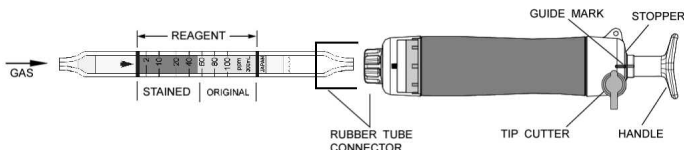

Fig.1
- ② Insert the detector tube into the aspirating pump securely as shown in Fig.1. (Arrow mark shall point to the pump.)
- ③ Align the guide marks on the shaft and stopper of the aspirating pump.
- ④ Pull the pump handle at a full stroke until it locks and wait for 1.5 minutes or until the completion of sampling is confirmed with the flow indicator of the pump. (See descriptions about the flow indicator in the instruction manual of the pump.)
- ⑤ Push back the handle without removing the detector tube from the rubber tube connector so that air in the pump will be discharged perfectly. Then repeat the step ③ ~ ④ twice more.
- ⑥ On completion of sampling, read the scale at the maximum point of the stained layer.